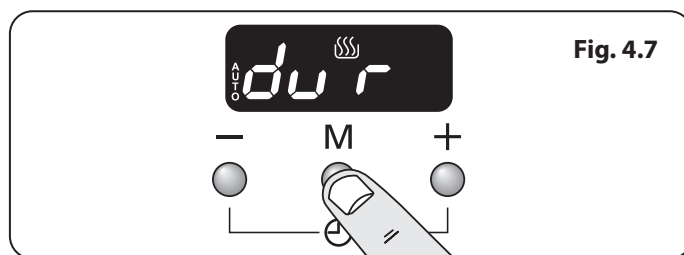

Fig. 4.7
1. Press the mode [M] button until the display flashes 'dur' (**Fig. 4.7**). Then set the 'cook period' using the [+] or [-] buttons.